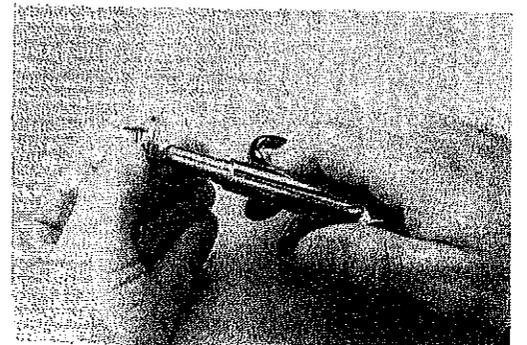

Fig. 5A
11. Look for the colored spring isolator(30) found either inside the cavity of the main body, or on the end of the valve spring(31). Remove and inspect for signs of wear or distortion, and discard if found.
12. Insert the prongs of a genuine Oceanic face spanner wrench into the two outer recessed holes of the valve seat end plug(24), found on the end of the main body. Use downward pressure to hold the tool seated securely, and rotate the end plug in a counterclockwise direction to remove. Remove and discard the valve seat o-ring(27). Remove and inspect the end plug o-ring(25) for any signs of decay. Discard if found.
13. Remove the valve seat(26) from the end plug by directing short blasts of low pressure air through the small opening found directly in the center of the end plug(See fig. 5A.). First, wrap a cloth over the seat to prevent it from ejecting suddenly and becoming lost. Discard and DO NOT attempt to reuse.